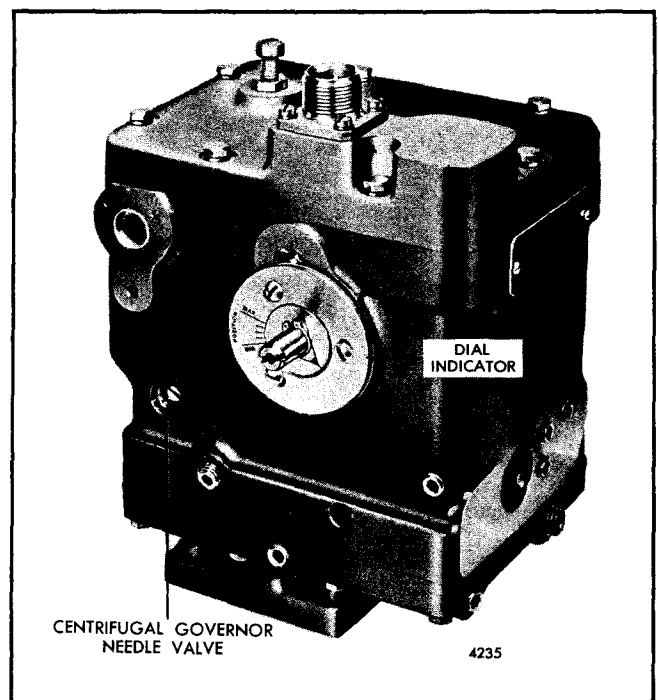

Fig. 6 - Location of Centrifugal Governor Needle Valve
1. Open the needle valve of the centrifugal governor section (Fig. 6) until the engine hunts or surges. After a half minute, gradually close the needle valve until the engine speed just stabilizes. Closing the needle valve farther than necessary will make the governor slow to return to normal speed after a load change. Never close the needle valve tight.